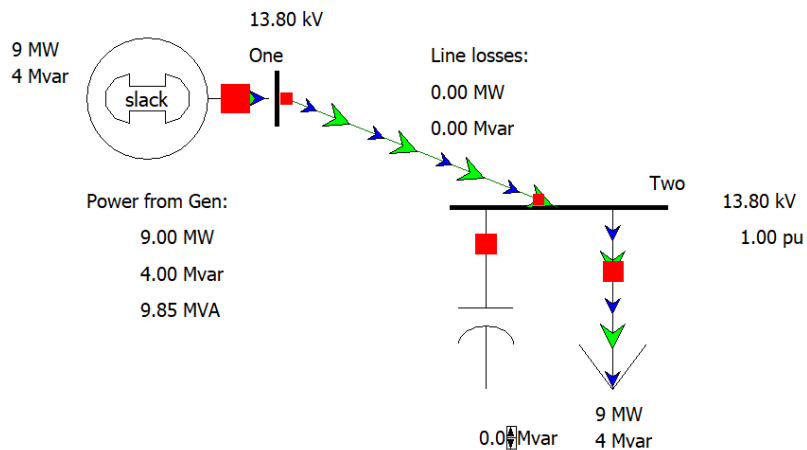

Figure 17- OLD Animation during Simulation
19) Once the animation starts, you will see a pair of Green and Blue arrows moving from the Generator through the Transmission Line into the Load. The Green arrows represent the Active Power Flow (Watts) in the system and the Blue arrows represent the Reactive Power Flow (VARs) in the system. The size of the arrow is proportional to the amount of power. Your system should look similar to Figure 17.